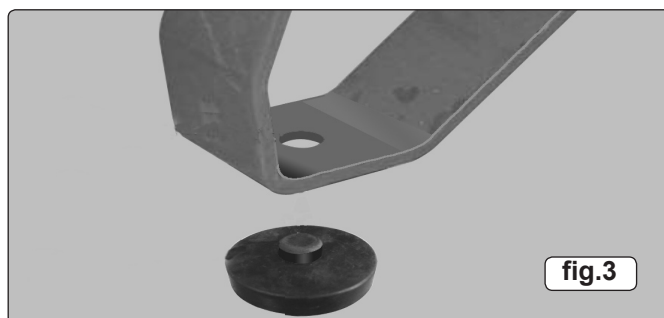

fig.3
- 3.5 To ensure good ventilation and efficient cooling, the compressor must be at least 100cm from any wall. Compressors fitted on the tank, with fixed feet, should not be rigidly secured to the ground. Fit the 4 anti-vibration supports, raise the compressor using a suitable pallet truck or fork lift and push the supports onto the base of each foot (fig.3).